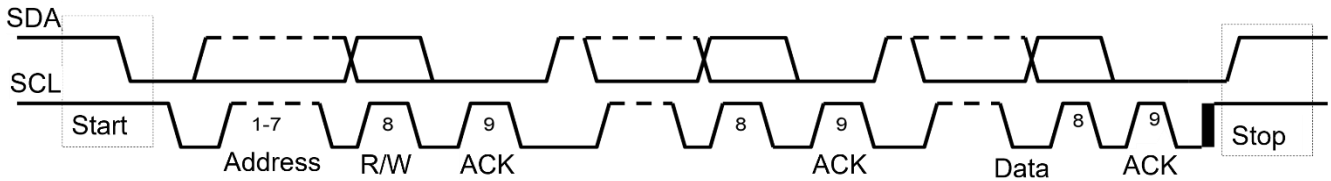

Figure 8: Complete Data Transfer
A slave cannot receive or transmit a complete byte of data while performing other tasks, but it can hold the SCL line low to force the master into a wait state (clock stretching). Then, when the slave is ready, data transfer continues, and the clock line (SCL) is released. Figure 8 on page 13 shows a complete data transfer.
After the start command, a 7-bit slave address is sent, followed by the read/write (R/W) bit. A 0 represents a write transmission (W), while a 1 indicates a read request (R). Figure 8 shows a complete data transfer.